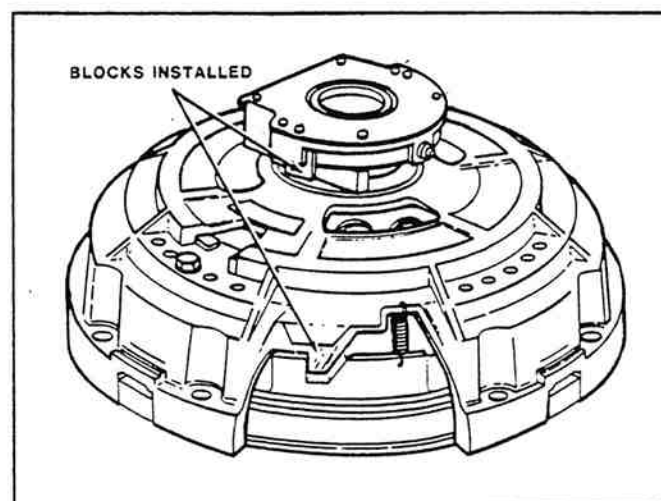

Figure 5-4. Wooden Blocks Inserted.
**ring as the clutch mounting bolts are loosened around the flywheel. These blocks will relieve the heavy internal spring load, preventing cocking and bending within the clutch and ensure easy removal of remaining mounting bolts. See figure 5-4.**